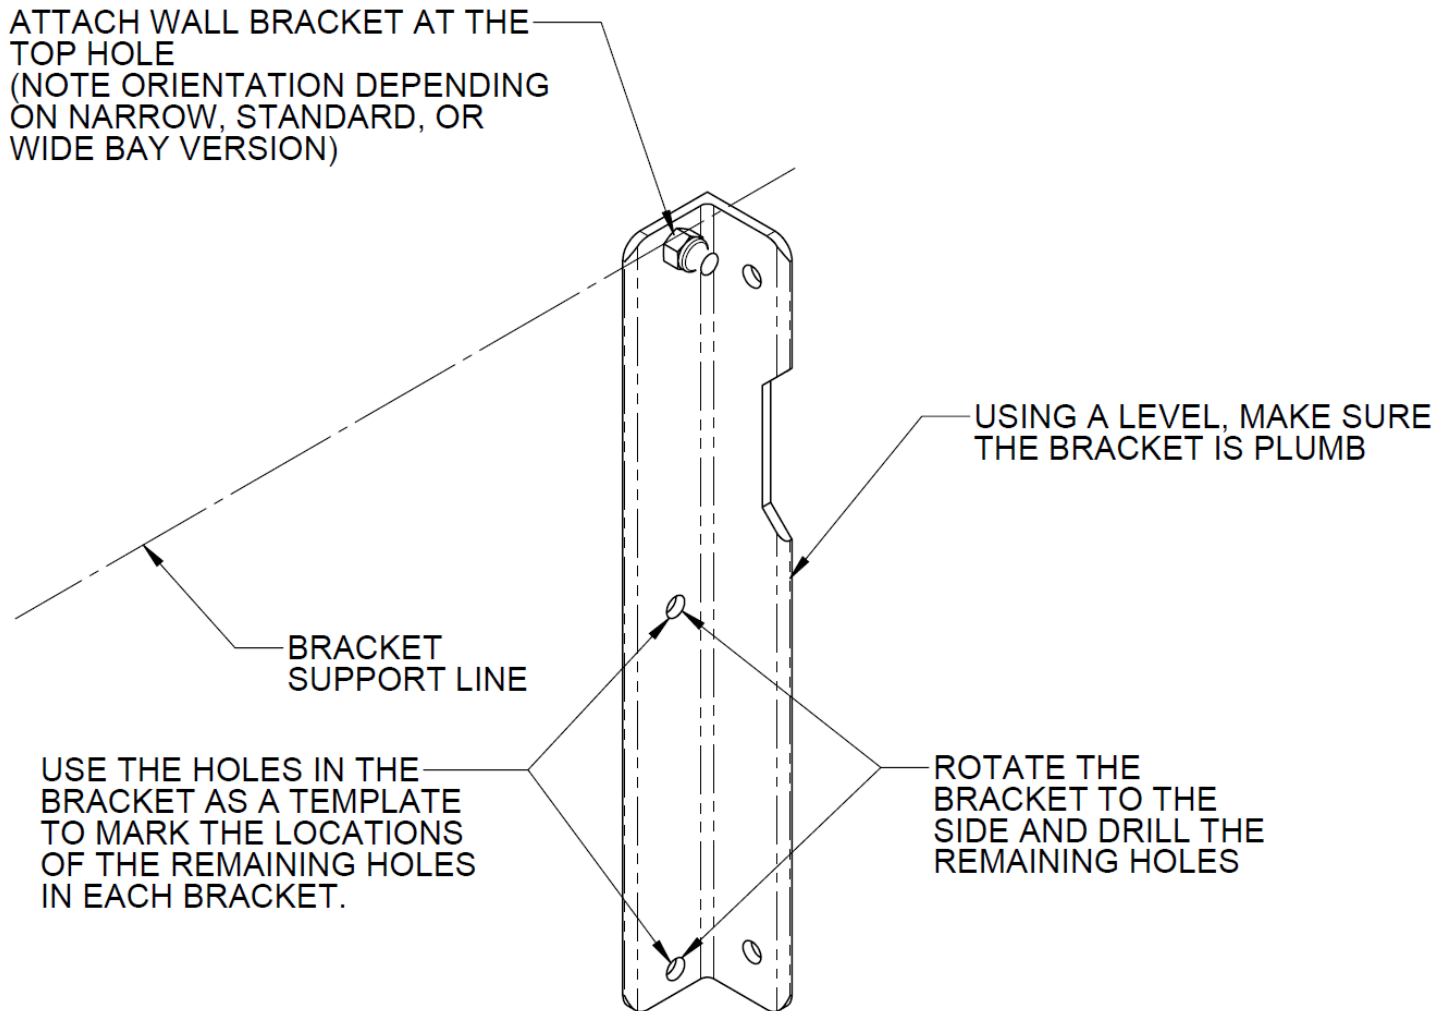

Figure 10- Locating and Drilling Remaining Wall Mount Holes
- Make sure the brackets are plumb (see Figure 10).